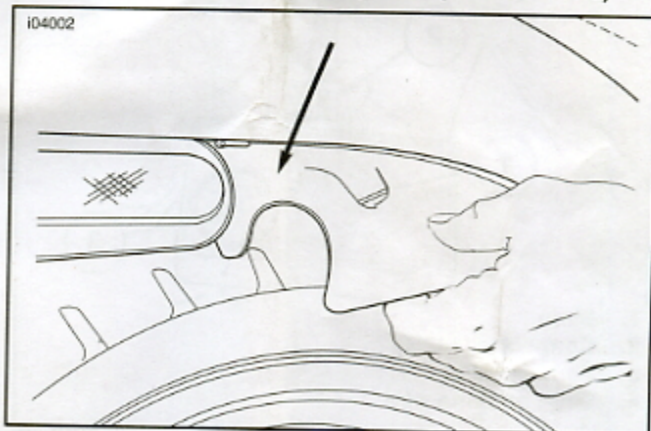

Figure 2. Lower the Mud Flap (VRSC Models)
3. See Figure 2. Lower the mud flap from the installed position, and allow it to rest on the rear tire.